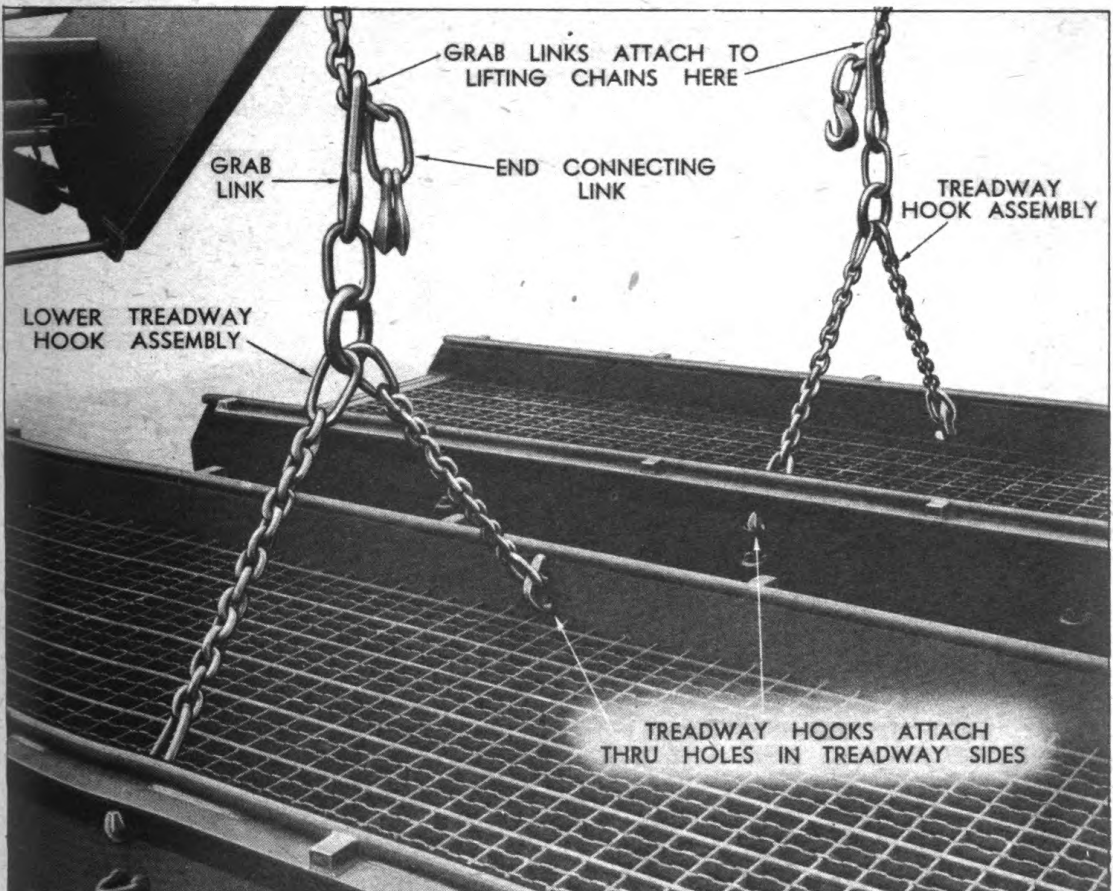

Figure 22. Proper Method of Attaching Lower Treadway Hooks
(1) To properly space the bridge treadways for the spacer bars, first attach the lower treadway hooks through the horizontal holes located about the center of the sides of the treadways. With the lower treadway hook in a horizontal position, insert it through the hole from the inside of the treadway side. Then twist it to the vertical position so the treadway hook bears against the side of the treadway as shown in Figure 22.
(2) Insert the outer lifting chains through the pear-shaped grab links of the lower treadway hook assemblies so the pear-shaped grab links lock on the outer lifting chain just above the large connecting links at the ends of the lifting chains as shown in Figure 22.